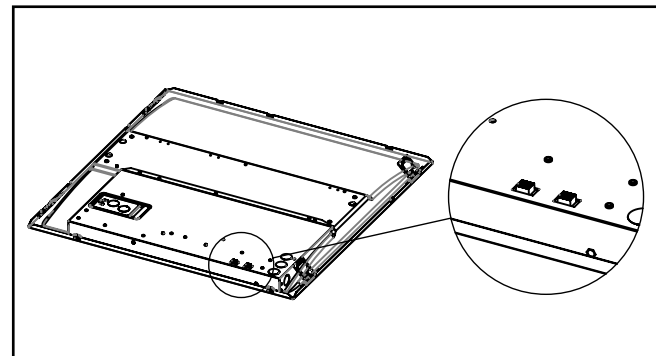

Figure 4.
1. On the driver enclosure are located two slide switches (Figure 4.), one for CCT and the other for lumens. CCT and lumen options must be selected prior to installation.